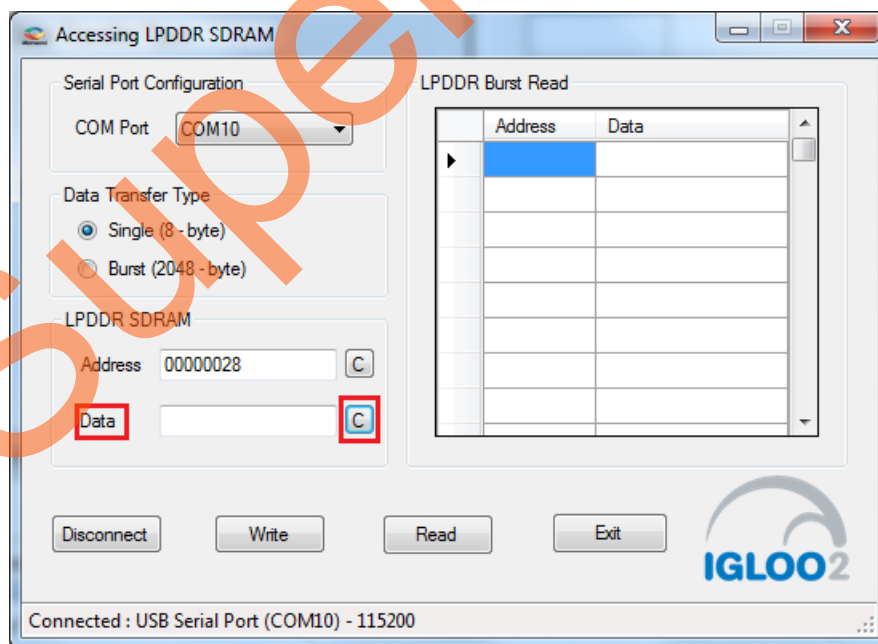

Figure 22 • Clear Data Field
6. Press **C** to clear the data present in the **Data** field. Figure 22 highlights the Clear button, **C**.